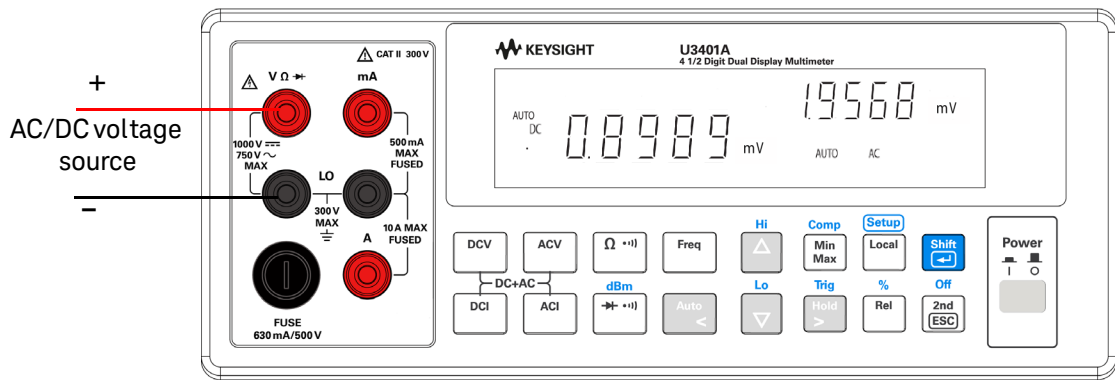

Figure 3-1 Connection terminal when measuring DC voltage and AC ripple
- 1 Connect the red and black test leads to the input terminal and probe the test points as shown in Figure 3-1.